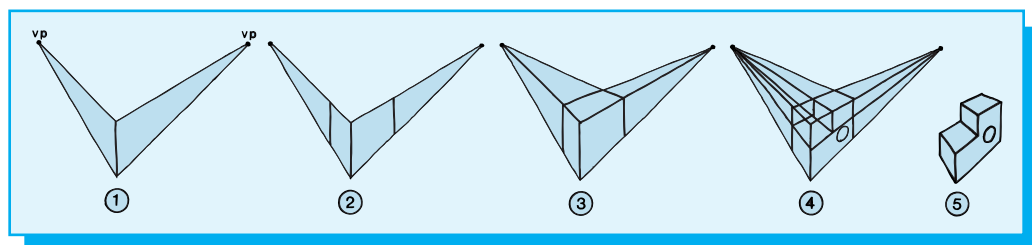

**Figure 3-9**
**Oblique** sketches are pictorials that recede on only one side of an orthographic view. In preparing an oblique sketch, first sketch a front view of the object (**Fig. 3-9**). Then extend lines from each corner upward at  $45^\circ$  or  $30^\circ$ . Connect the ends of these lines with lines that are parallel to the lines of the